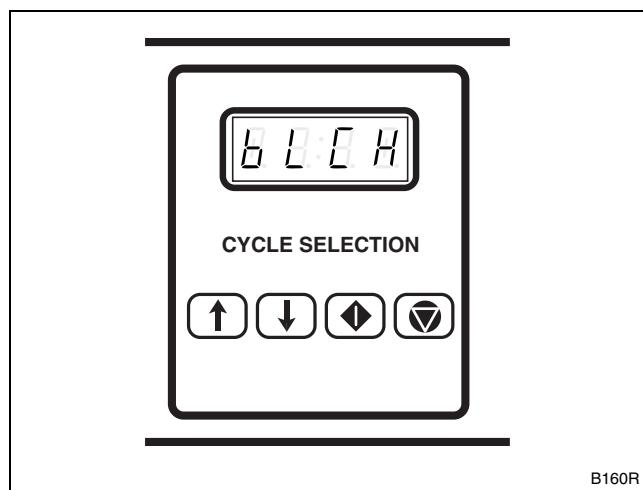

Figure 14
10. When applicable, add bleach when the display reads "bLCH". Refer to *Figure 14*.